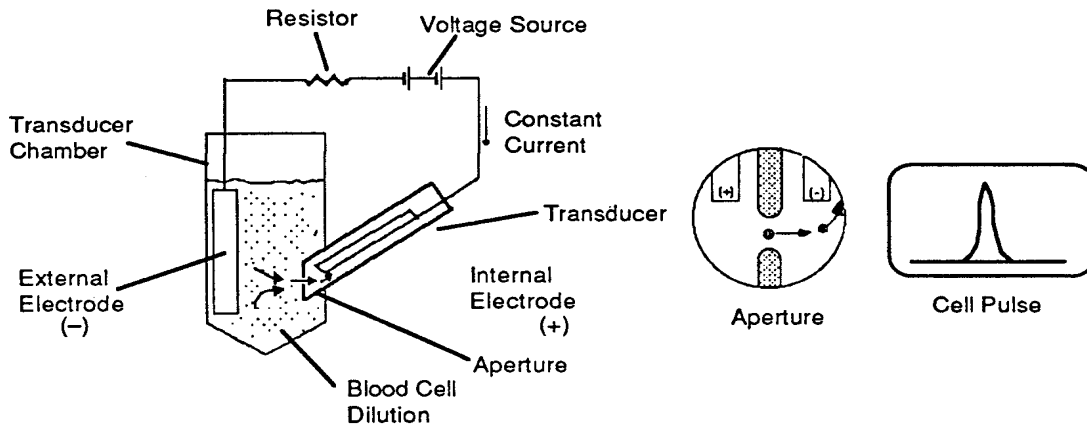

Figure 2-1 Electric Resistance Detection
1. The suspended cells are aspirated through a transducer aperture. A constant DC current flows from an electrode inside to an electrode outside the transducer (see Fig 2-1).